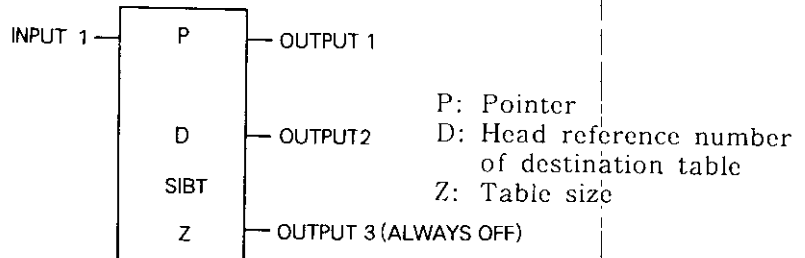

Fig. 5.70 SIBT General Form
- Fig. 5.70 shows the form of the block move 1 with source index (SIBT).